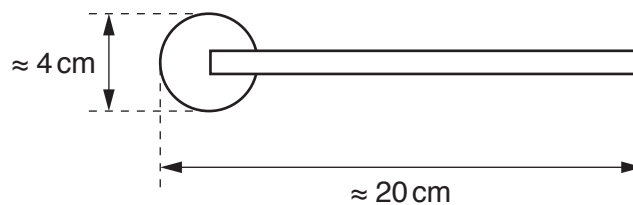

Fig. 2.1
- 1 It should be possible to attach the pulley to the stand using the boss. A pulley with the approximate dimensions shown in Fig. 2.1 is suitable.